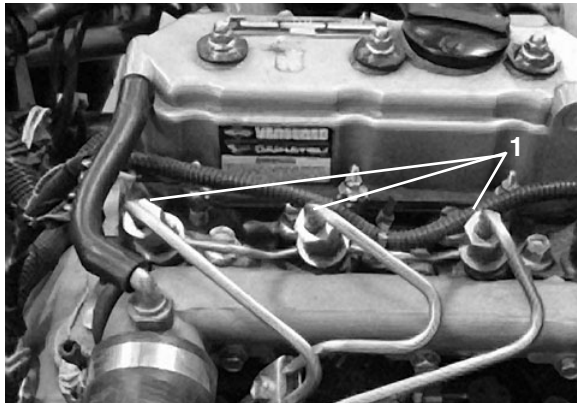

Figure 41
Bleeding Air from Injectors (Fig. 41)
2. Loosen the pipe connection to the No. 1 nozzle and holder assembly (Fig. 41).